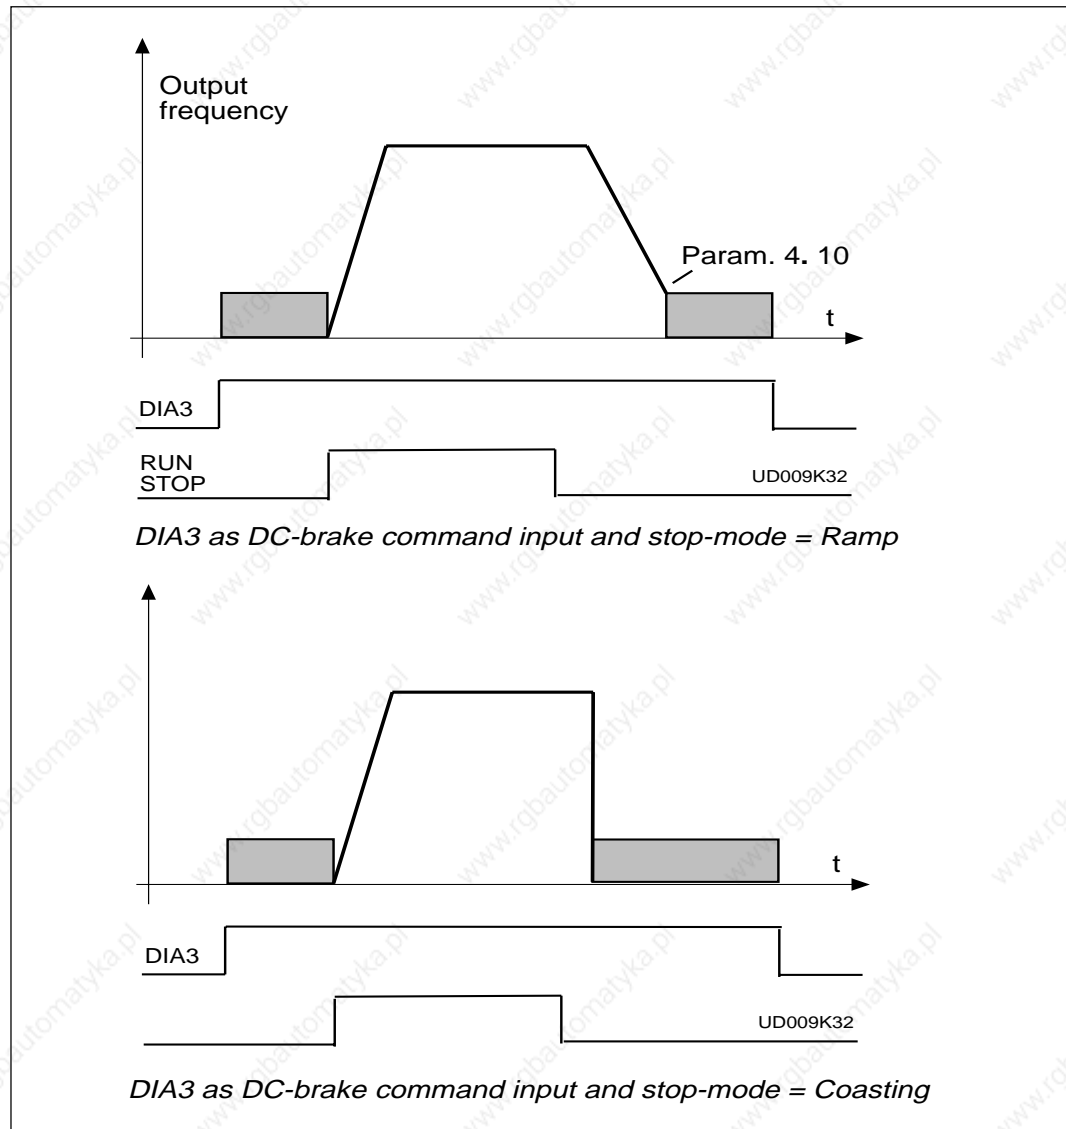

Figure 3.5-4 DIA3 as DC-brake command input: a) Stop mode = Ramp, b) Stop mode = Coasting.
- 9:** DC-braking command contact closed = In Stop mode, the DC-braking operates until the contact is opened, see figure 3.5-4. DC-brake current is set with parameter 4. 8.